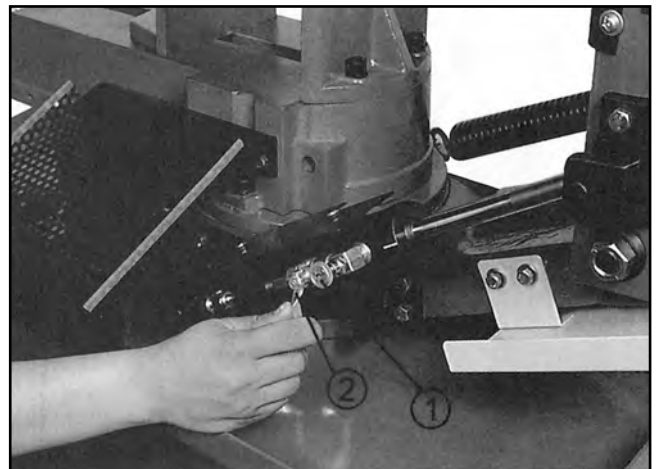

Fig. 6
The hydraulic feed selector is used to control the blade feed rate and to lock the arm in the vertical position. To increase the feed rate, turn knob (1), (Fig. 6) counter-clockwise. To decrease the feed rate, turn knob (1) clockwise. To turn off the flow of hydraulic fluid, turn lever as in figure 6. To turn the hydraulic cylinder on, raise lever (2) to the 12 o'clock position.